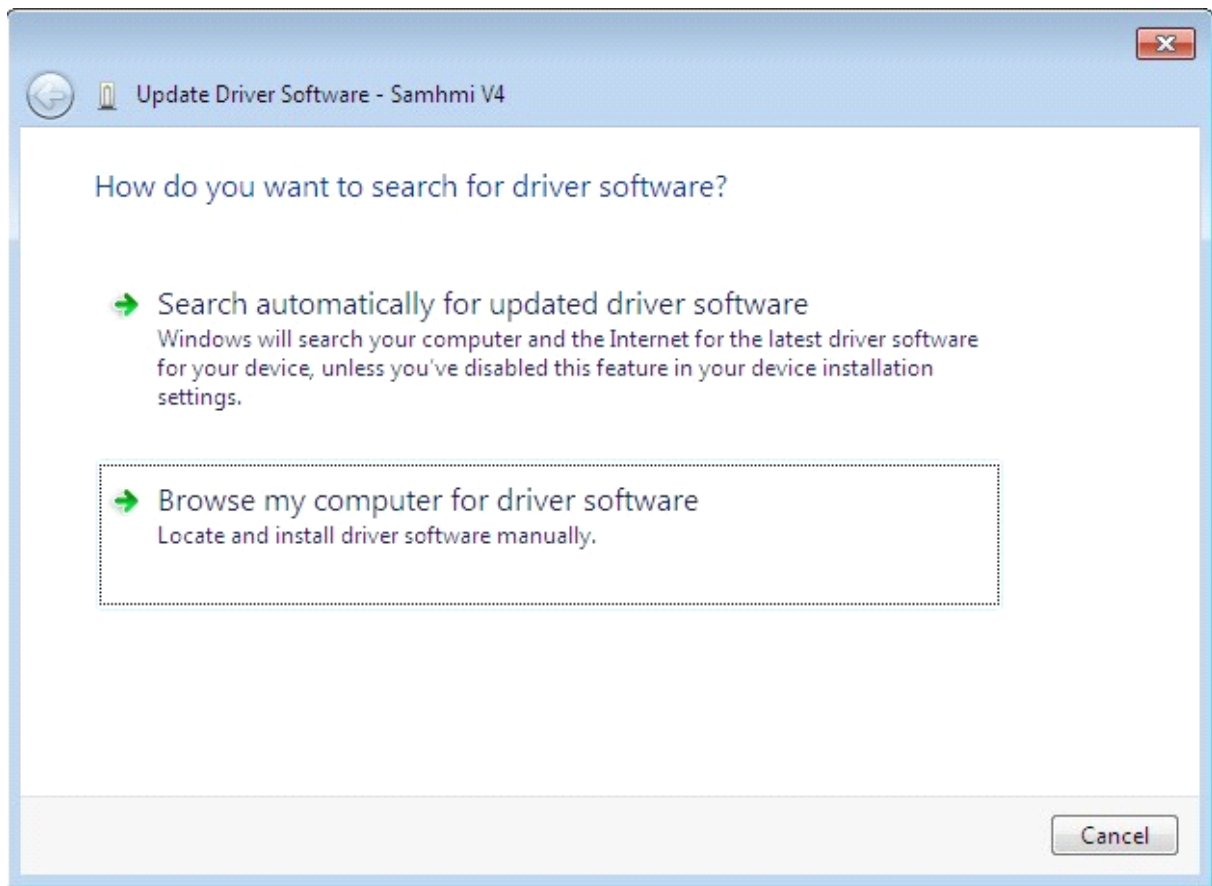

Figure 2-22: Driver updating page of VISTA
- Choose "View the computer to find the driver software" on the installation page. See Figure 2-22.